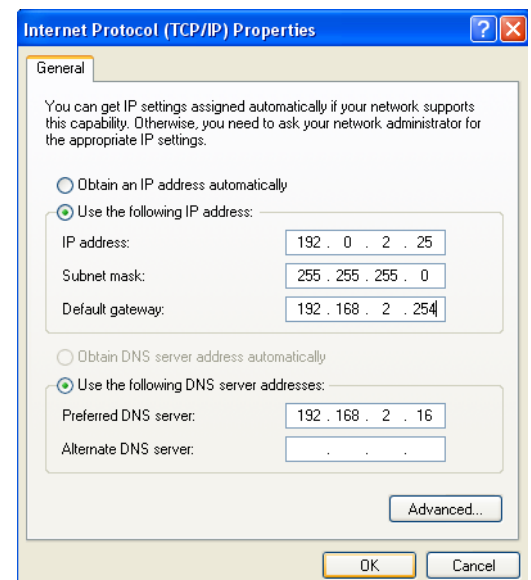

Figure 2.
6. In the **General** tab, click **Use the following IP address**, and enter e.g. the 192.0.2.25 as **IP address** and 255.255.255.0 as **Subnet mask** as shown on *Figure 2*.